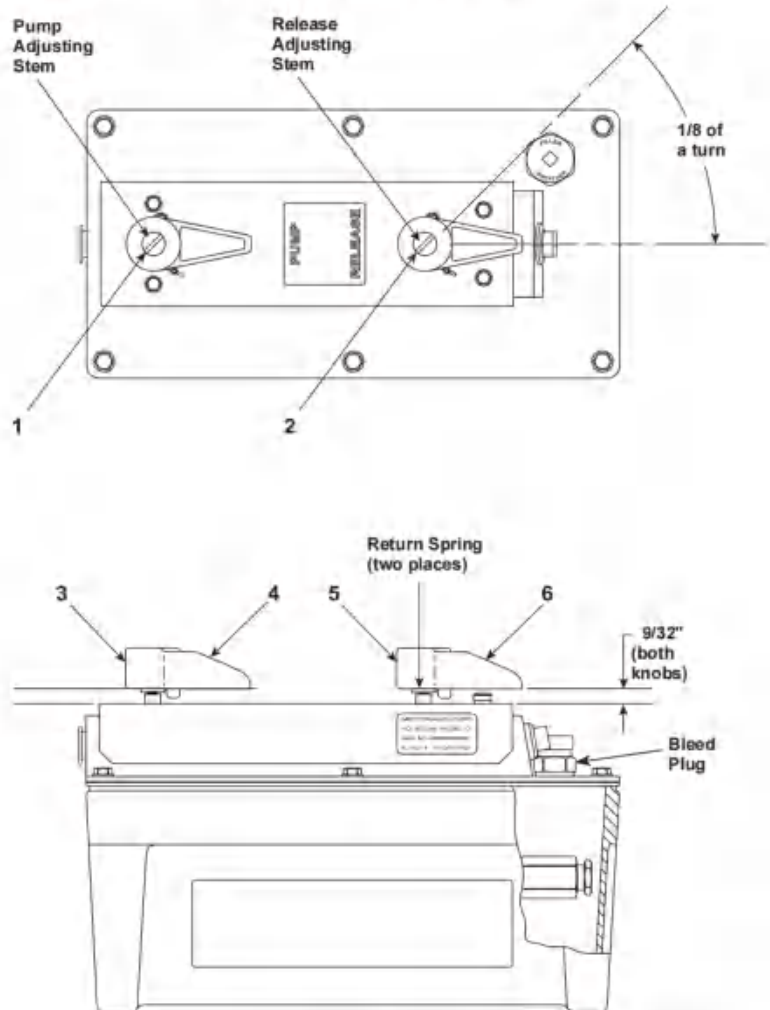

Figure 20
Note: Callout numbers on this page refer only to **Figure 20**.
Note: To keep the return spring in place, keep the lever at a height of 9/32". See Figure 20.
1. Loosen set screw (5) on RELEASE lever (6).
3. Use a screwdriver to turn the adjusting screw (2) counterclockwise until pressure is released. Loosen the screw another 1/8 turn. To keep the return spring in place, keep the lever at a height of 9/32".
4. Tighten the set screw to hold the adjustment. See Figure 20.
2. Remove the bleed plug. See Figure 20.